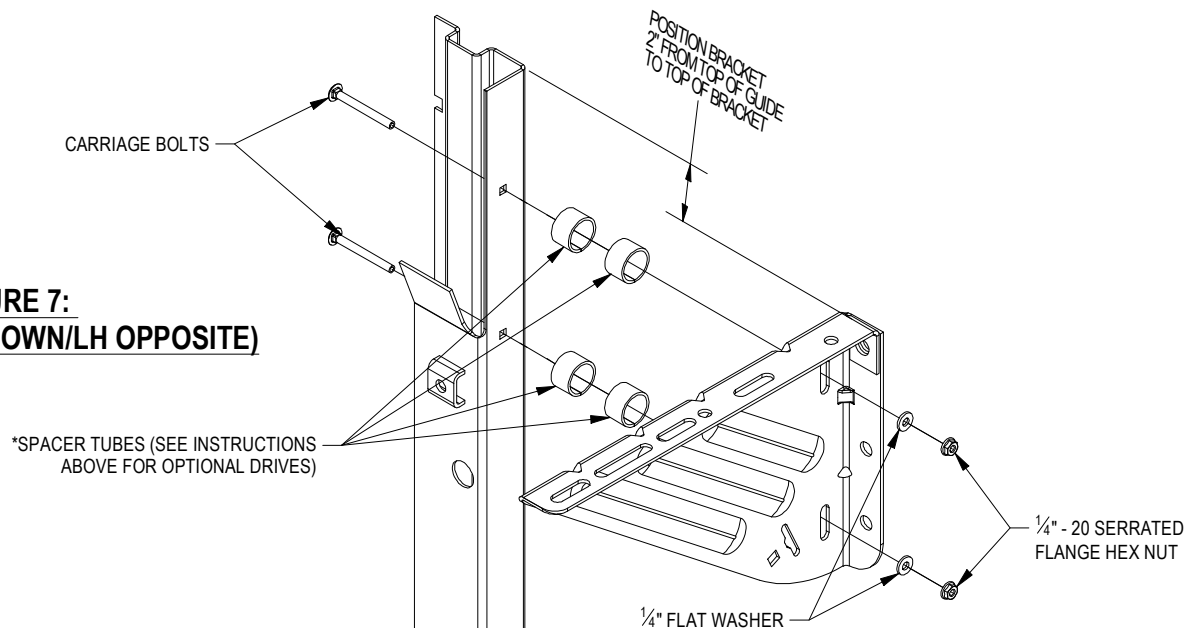

**FIGURE 6:
- ▶ Attach Commercial Brackets to guides, locating top surface of bracket 2" below top of guide. Use (2) 1/4" - 20 x 5/8" carriage bolts, (2) 1/4" - 20 serrated flange hex nuts and (2) 1/4" flat washers per bracket for tensioner and the non-tensioner (drive) end. For push-up operation. **See Figure 6.**